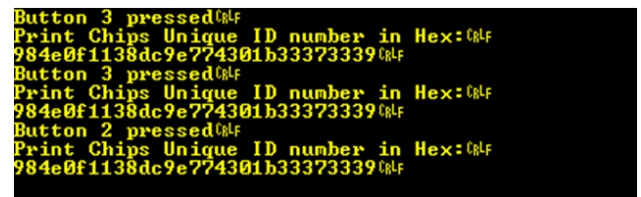

Figure 14. UART Data in RealTerm
4. Open a terminal program such as RealTerm to view the UART data from the **ADuCM355** (see Figure 14). The baud rate is 57600 bps.